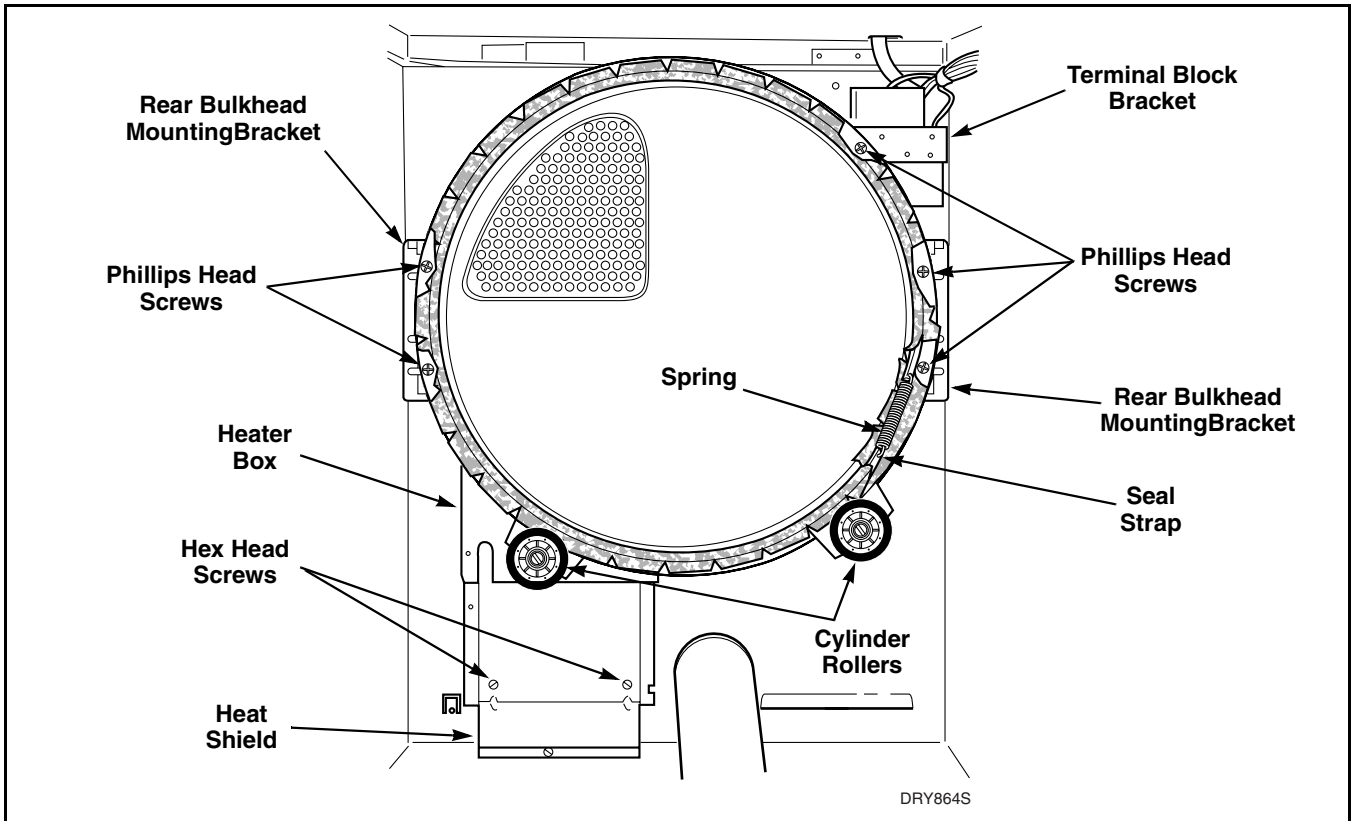

Figure 37
- Unhook spring from seal strap. Refer to *Figure 37*.
- d. Remove two hex head screws holding bottom end of heater box to heat shield. Refer to *Figure 37*.
- e. Remove Phillips head screw holding rear bulkhead to terminal block bracket and four Phillips head screws holding rear bulkhead to mounting brackets. Refer to *Figure 37*. Lift entire assembly out of cabinet.
- c. Remove screws holding bottom end of heater box to heat shield. Refer to *Figure 37*.